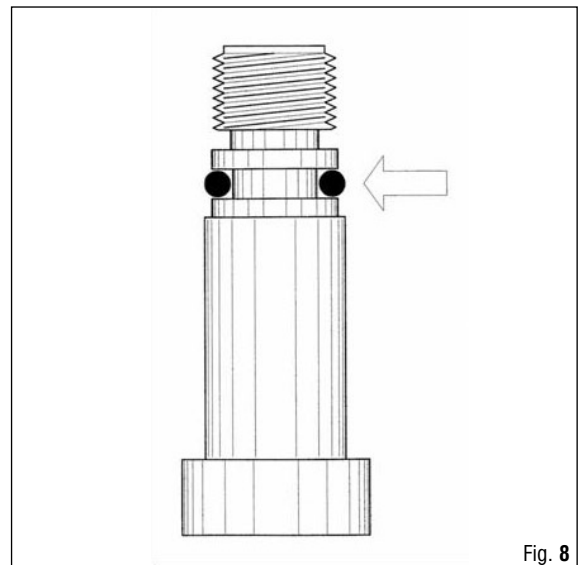

Fig. 8
Position the O-Ring (71) on the DIN fitting (48) (Fig. 8).